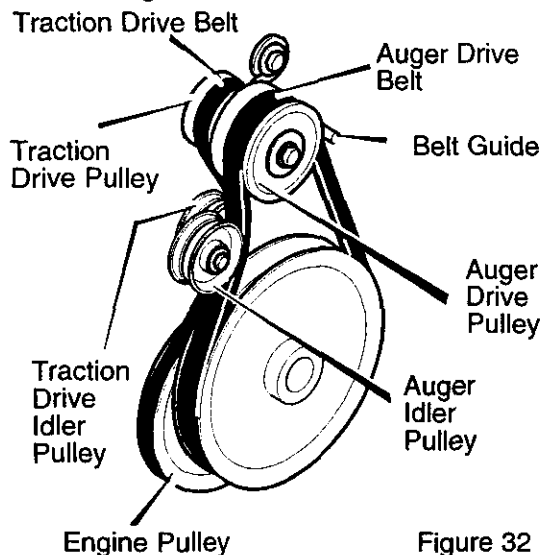

Figure 32
4. Pull the traction drive idler pulley away from the traction drive belt. See Figure 32.